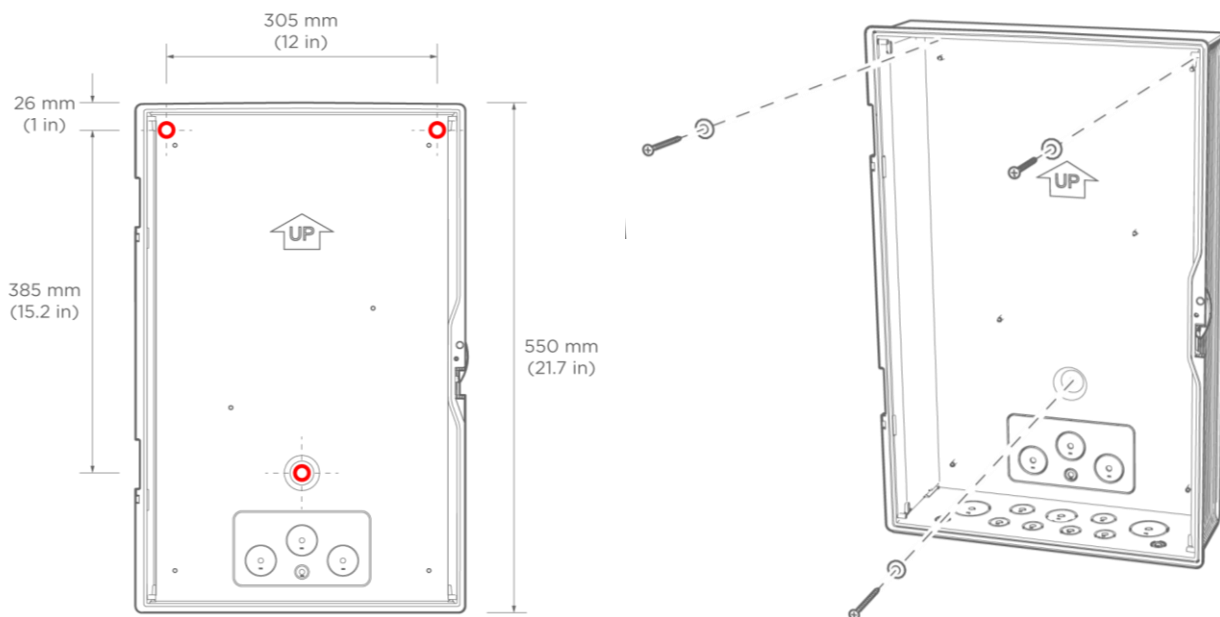

Figure 7: Backup Gateway Enclosure Mounting Holes
**⚠ CAUTION:** The sealing washers must be installed to guarantee IP55 ingress rating (see Figure 7, right).
3. Install the Backplate Assembly in the enclosure, orienting it for bottom or top cable entry. Attach it to the five (5) studs using the five (5) supplied 8mm nuts. Use a torque wrench with 8mm socket to tighten the nuts to 6 Nm.